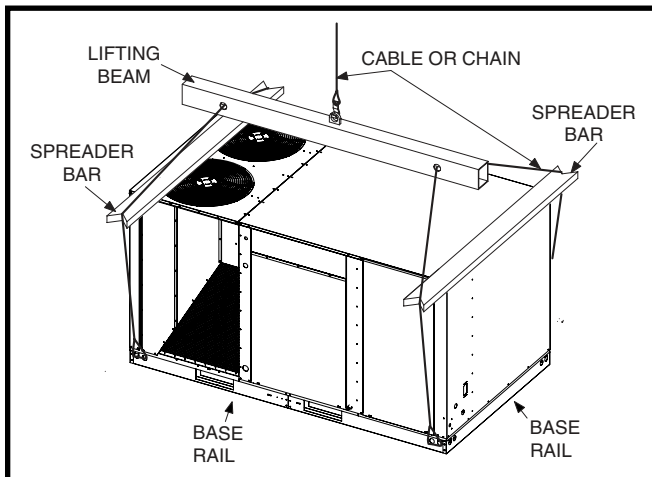

Figure 5. Rigging & Hoisting
- The unit must be lifted from the holes in the base rails using cables or chains as shown in Figure 5 (page 4).
- Spreader bars (Figure 5) are required to protect the unit and ensure even loading.